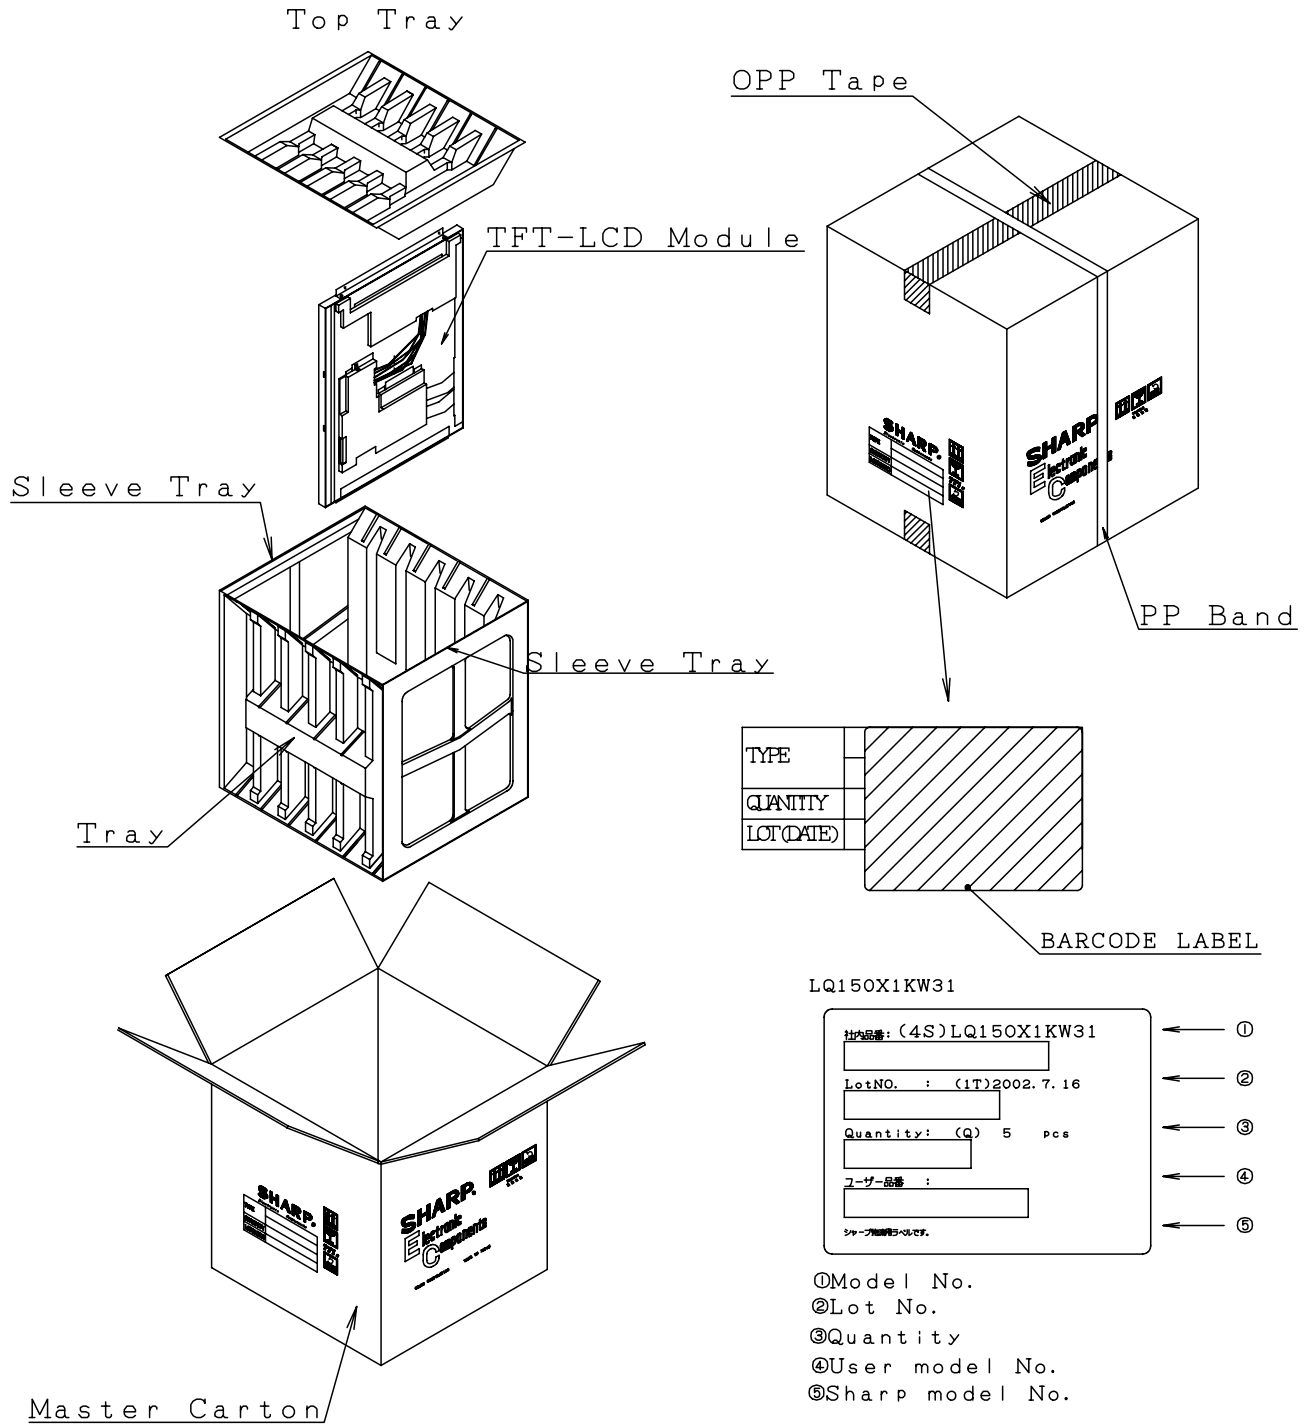

Fig. 6 Packing Form
※The optical characteristics shall be measured in a dark room or equivalent state with the method Shown in Fig.6 below .
- d) Packing form drawing : Fig.6